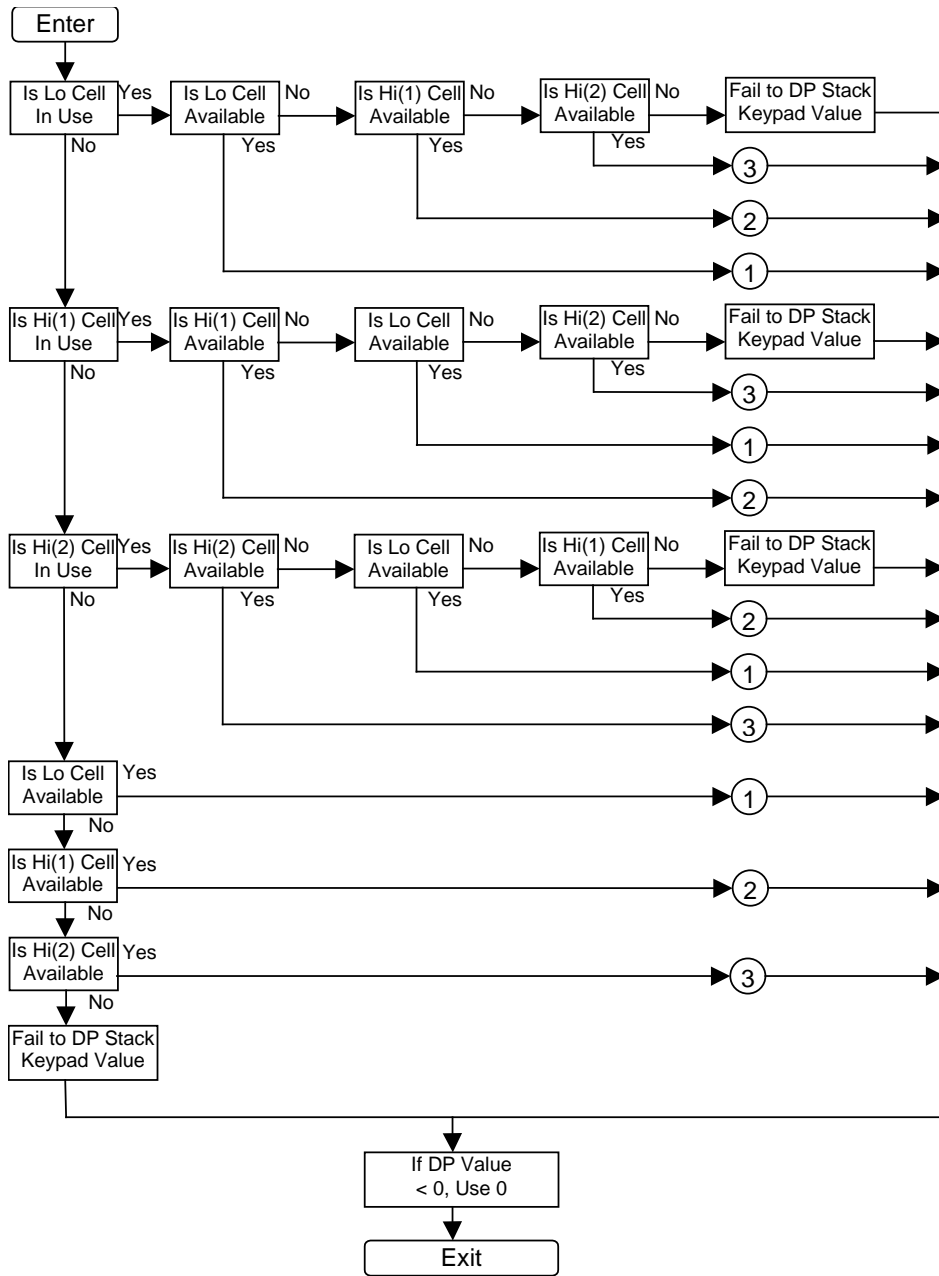
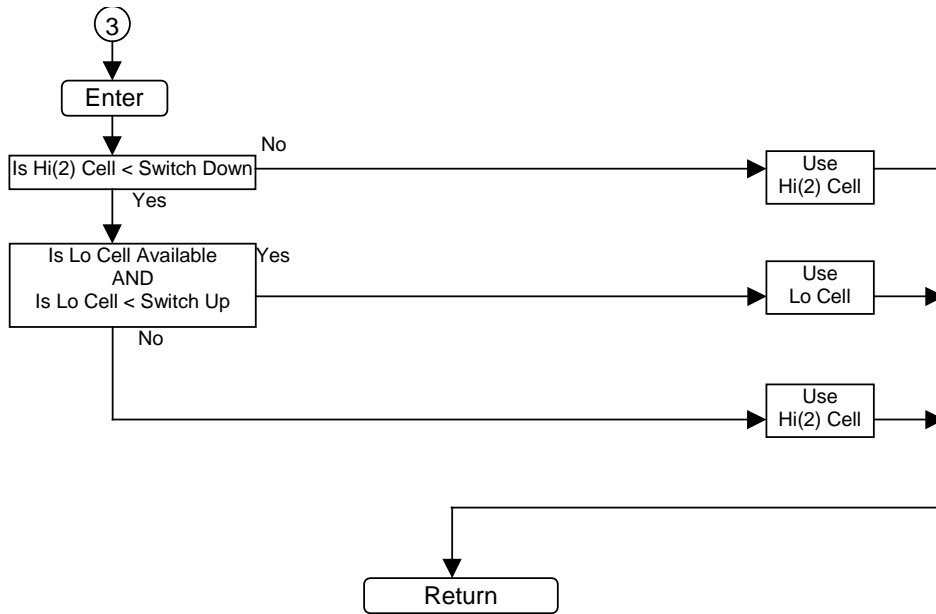

Figure 6-55. Lo Hi Hi Cell Input Handling Flowchart (1)
Figure 6-58. Lo Hi Hi Cell Input Handling Flowchart (4)
*Figure 6-55 through Figure 6-58* provide flowcharts illustrating how the S600+ handles this.